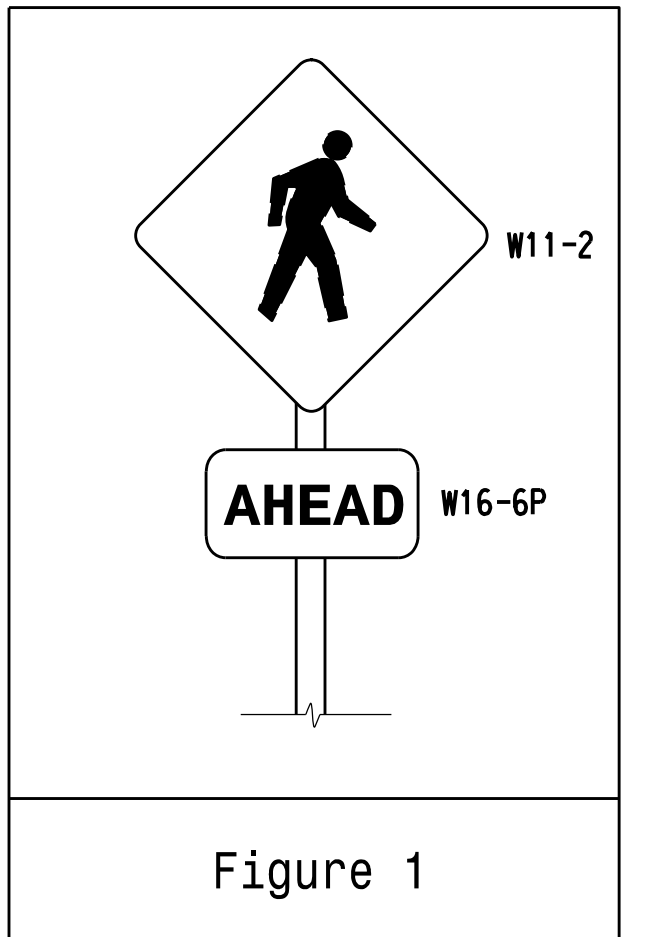

Figure 1
- Locate the Pedestrian and Crosswalk advance signs (see Figure 1) in accordance with Table 2C-3 in Section 2C.04 of the 2023 MUTCD or as otherwise directed by the Engineer.